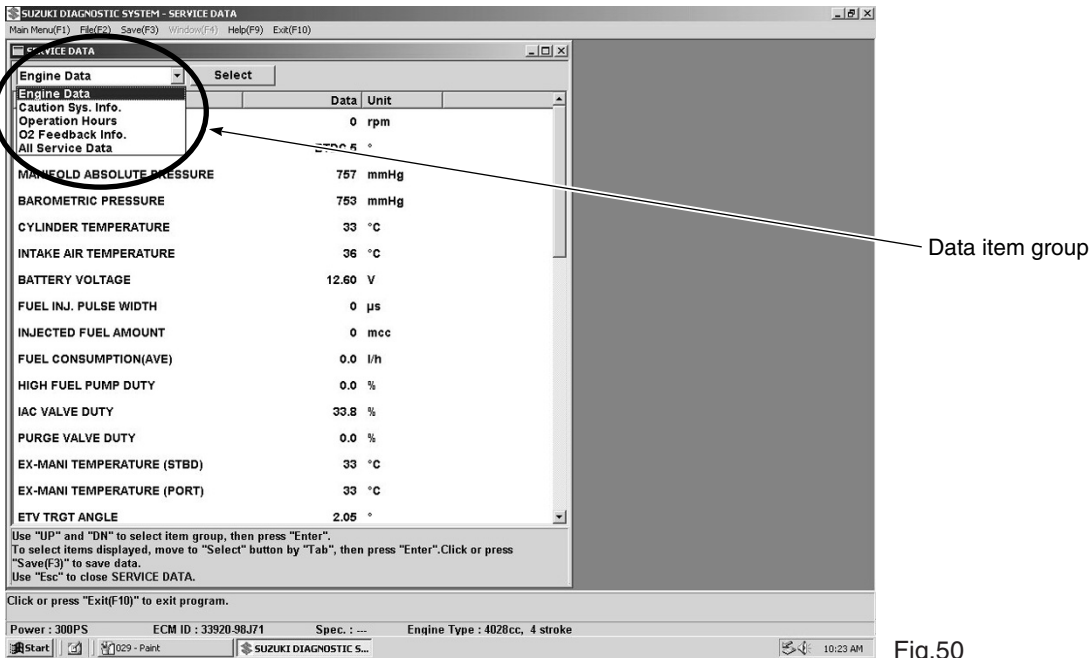

Fig.50
2. In the “SERVICE DATA” window, you can select one of the five data item groups (Engine Data, Caution Sys.info, Operation Hours, O₂ Feedback info, and All Service Data). (Fig.50) Select a data item group you want to use by clicking the ▼ button. (Keyboard) To select a data item group from the keyboard, select a menu by using the “Up” or “Down” key and then press the “Enter” key.